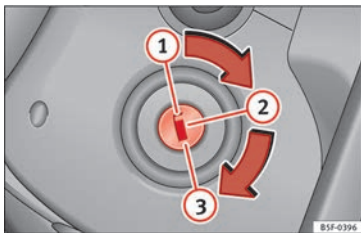

Fig. 165 Ignition key positions.
» **Fig. 165.**
- Remove the key from the ignition in position **①** » **Fig. 165** » **⚠.**